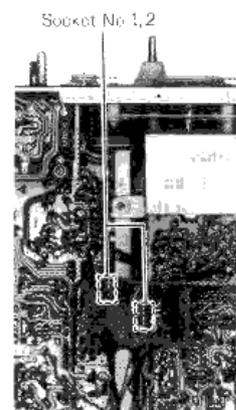

Fig. 7-2
4. Remove the two (2) sockets (nos. 1 & 2) for the frequency counter, as shown in fig 7-2.